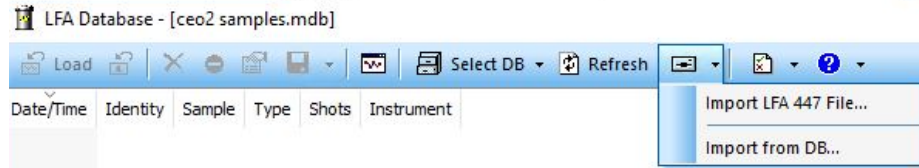

Figure 30. Import files into the database from drop-down menu.
- Click on the Import Files icon  and select Import LFA 447 File from the drop-down menu (as shown in Figure 30).